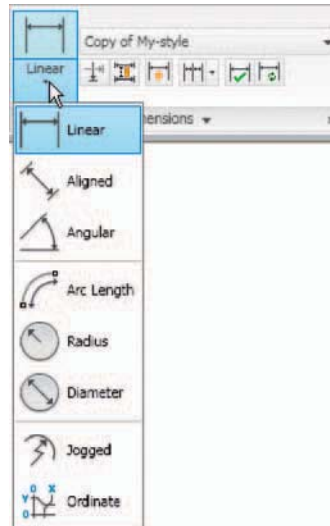

Fig. 6.3 The **Linear** tool icon in the **Annotate/Dimension** panel
3. Click the **Linear** tool icon in the **Annotate/Dimension** panel (Fig. 6.3) or on **Linear** in the **DIMENSION** toolbar. The command line shows:
3. The drop-down menu from the **Line** tool icon contains the following tool icons – **Angular**, **Linear**, **Aligned**, **Arc Length**, **Radius**, **Diameter**, **Jog Line** and **Ordinate**. Please refer to Fig. 6.3 when working through the examples below. **Note** when a tool is chosen from this menu, the icon in the panel changes to the selected tool icon.
3. *Left-click* the **Aligned** tool icon (see Fig. 6.3) and dimension the outline. The prompts and replies are similar to the first example.
3. *Left-click* the **Radius** tool icon (see Fig. 6.3). The command line shows: